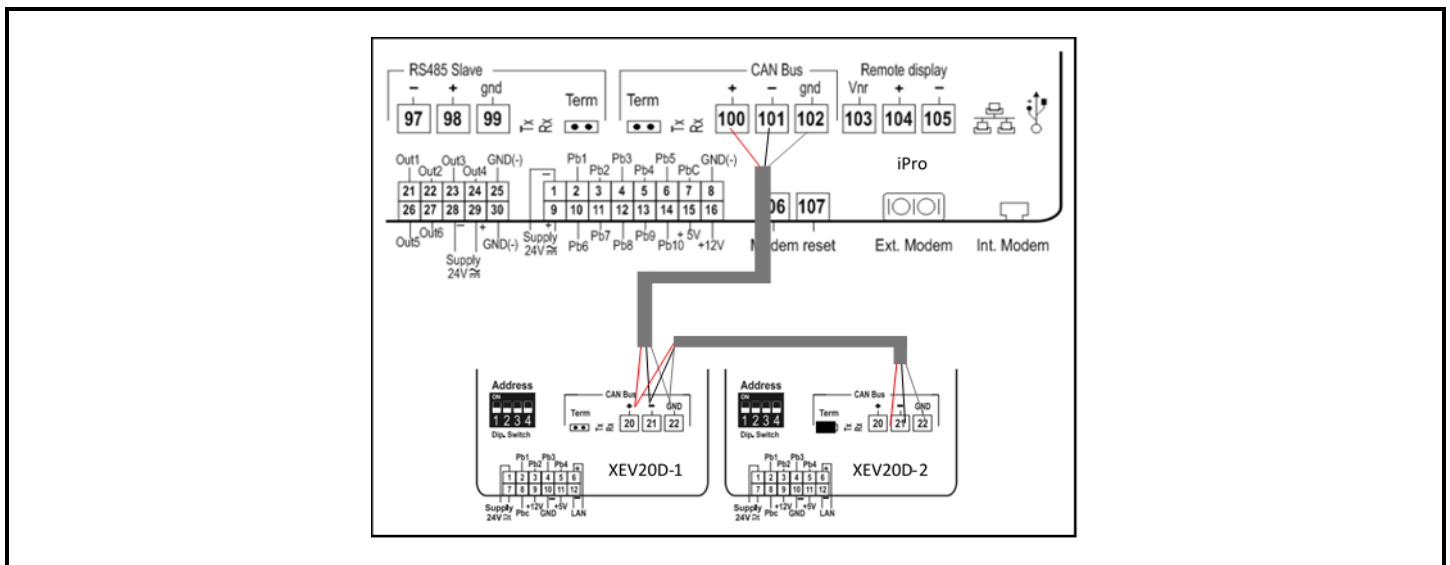

Figure 4-9 - XEV20D CAN Bus Wiring
The XEV20D communicates with the iPro Case Controller using the CAN Bus protocol link. The CAN Bus connection will use RS485 wiring standard and the approved wire type is General Cable 92454A (*Emerson P/N 135-0600*). The polarity of the CAN Bus connection between iPro and XEV20D is straight polarity (*see Figure 4-9*). When two XEV20D devices are connected to the iPro Case Controller, the CAN Bus connection should be in a daisy chain with the last XEV20D device having the CAN Bus termination jumper installed, see figure 8. For successful communication to occur, the addressing dip switches on the XEV20 must be set correctly. When one (1) XEV20D driver is being used by the iPro Case Controller, then the dip switch address will be (two) 2, when two (2) XEV20D modules are being installed, the modules should be address 2 and 3. An example of how to address the device using the dip switches is shown in Figure 7.